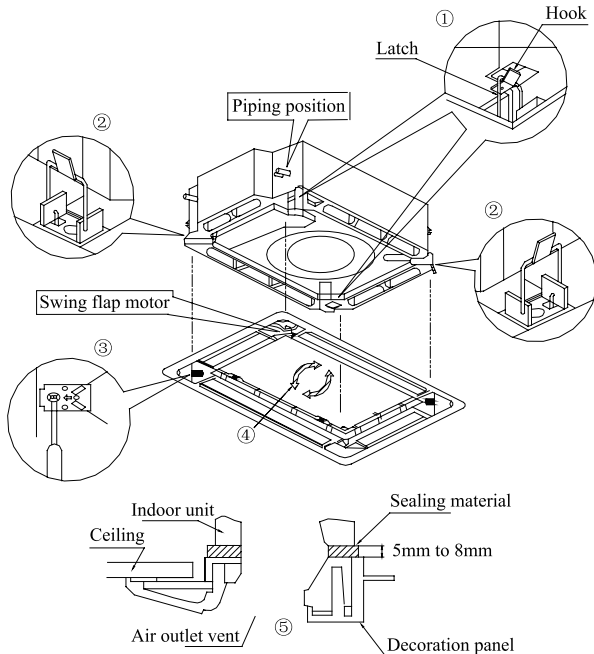

Fig.13
(1). Set the panel to the indoor unit body by matching the position of the swing flap motor of the panel to the piping position of the panel to the piping position of the indoor unit as shown by fig.13.
- ① . Install the panel on the indoor unit temporarily. When install, hang the latch on the hook that is located on the opposite side of the swing flap on the panel of the indoor unit. (2 positions)
- ② . Hang the remaining 2 latches to the hooks on the sides of the indoor unit.(Be careful not to let the swing motor lead wire get caught in the sealing material.)
- ③ . Screw the 4 hexagon head screws under the latches in about 0.59in (15mm). The panel would rise.
- ④ . Adjust the panel by turning it toward the direction pointed by the arrow as shown in fig.13, so that the adjust board connect the ceiling well.
- ⑤ . Tighten the screws until the thickness of the sealing material between panel and indoor unit reduced to 0.2-0.3in (5-8mm).